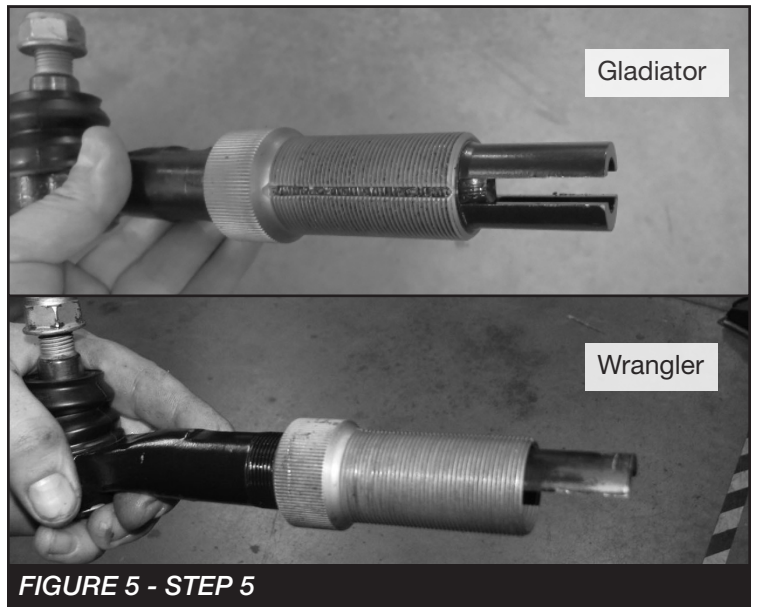

FIGURE 5 - STEP 5
5. Locate the factory drag link. Loosen the adjuster and remove the rod end with the collar. **SEE FIGURE 5**